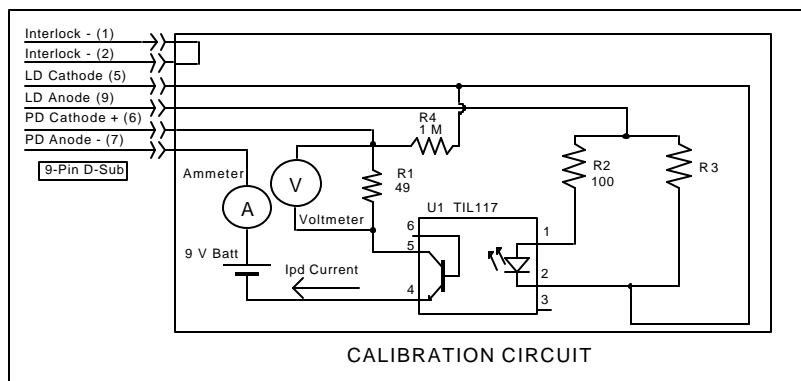

Figure 5.1 I_{PD} Calibration Circuit
It will be necessary to connect various loads and circuits to the outputs of the module for the calibration procedure. The devices required for most of the calibration loads are listed in Table 5.2. A schematic is shown in Figure 5.1 for the photodiode calibration circuit, with the required components listed in Table 5.3.
PHOTODIODE MONITOR CURRENT CALIBRATION (See schematic in Fig. 5.1)
- a. With the output off, connect the IPD calibration circuit, Figure 5.1, to the laser connector.
- b. Connect an ammeter with at least 5000 μA range and at least $\pm 0.1 \mu\text{A}$ accuracy as shown in Figure 5.1. This ammeter is in series with the Photodiode Anode input to the module, and directly measures the photodiode current.